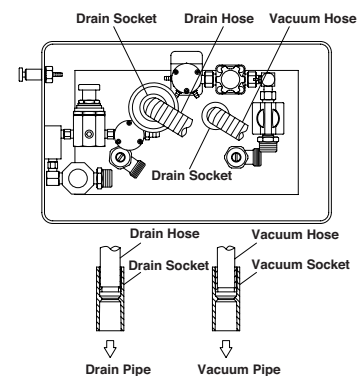

Fig.5-7 Drain Hose and Vacuum Hose Connection
(2) Drain Hose and Vacuum Hose Connection
- B.Insert the drain socket and vacuum socket into each pipe. (Fig.5-7)